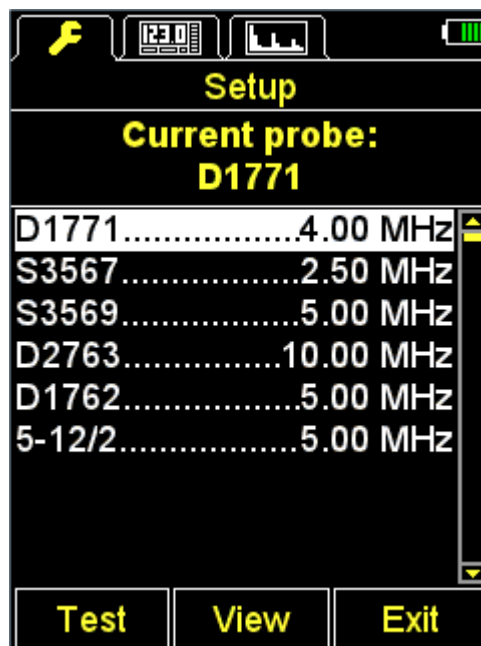

Figure 16
– using the keys   go to the line with the name of the connected PT and press  key to select it (Figure 16).